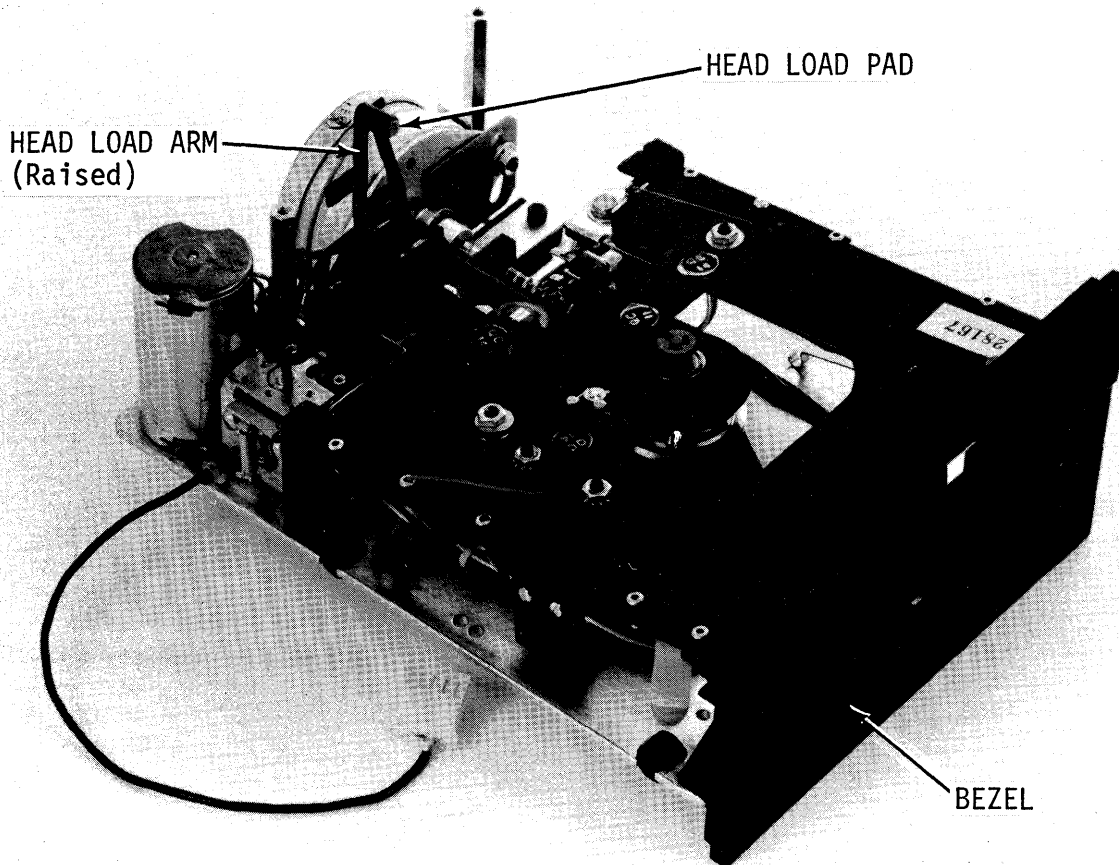

Figure 6-5. Head Load Arm and Pad
- b. Pivot the head load arm up until it is vertical and hold it in this position, using care to keep the spring and pins in place (see figure 6-5).